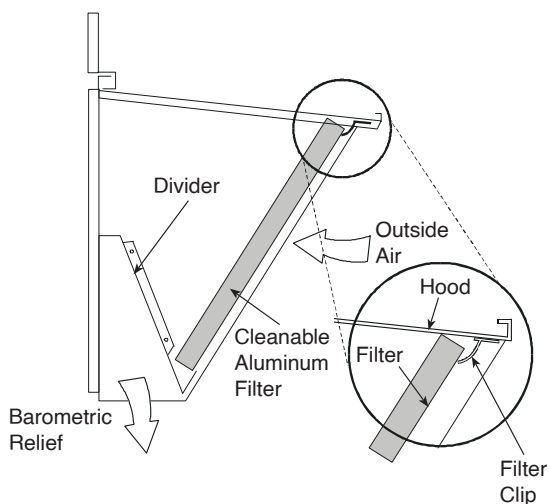

Fig. 13 — Economizer Filter Installation
5. Open the filter clips located underneath the hood top. Insert the aluminum filter into the bottom filter rack (hood divider). Push the filter into position past the open filter clips. Close the filter clips to lock the filter into place. See Fig. 13.